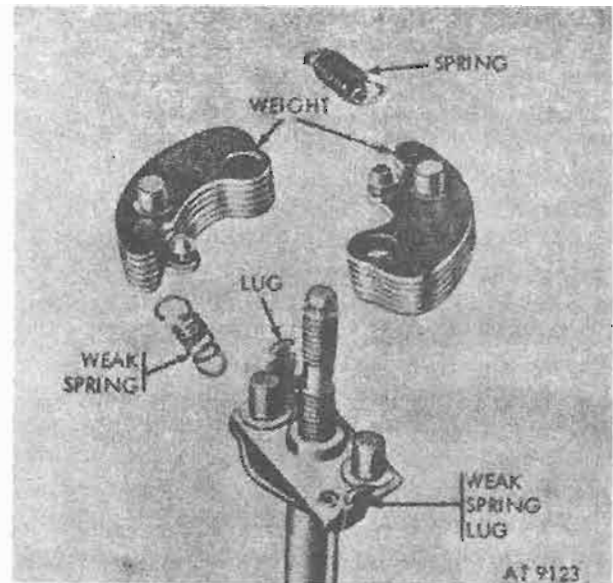

Figure 6-5. Governor assembly.
c. Slip governor springs off lugs with long-nosed pliers. Mark weak spring lug to be sure weak spring is assembled to correct lug when assembling (fig. 6-5).
d. Lift governor weights off pivots and remove springs from governor weights (fig 6-5). Refer to paragraph 7-14 a before assembling shaft.
g. Governor (fig. 6-5). Clean governor weights, governor springs and snapping, in drycleaning solvent or mineral spirits paint thinner and dry thoroughly. Discard weights if pivot holes are worn or if they are a loose fit on pivots. Discard springs if bent or distorted.
b. Replace governor weights on pivots and place springs on governor weights (fig. 6-5). Insure that weak spring is in proper positioning for positioning on the weak spring lug as outlined in paragraph 6-4 c. Slip governor springs over lugs with long-nose pliers (fig. 6-5).
b. Start fixture and set speed at 400 rpm. Advance indicator should read 1.7 to 3.2 degrees. If advance is too high, increase tension on weak weight spring by bending governor outer spring lug (fig. 6-5). If advance is too low, decrease tension on weak spring.
b. Increase speed to 400 rpm. Advance indicator should read $1\frac{3}{4}$ — $3\frac{1}{4}$ degrees. If advance is too high, increase tension on weak weight spring by bending governor outer spring lug (fig. 6-5). If advance is too low, decrease tension on weak spring.
d. Increase speed to 1600 rpm. Advance indicator should read $11\frac{3}{4}$ —13 degrees. If advance is too high, increase tension on strong weight spring by bending governor outer spring lug (fig. 6-5). If advance is too low, decrease tension on strong spring.